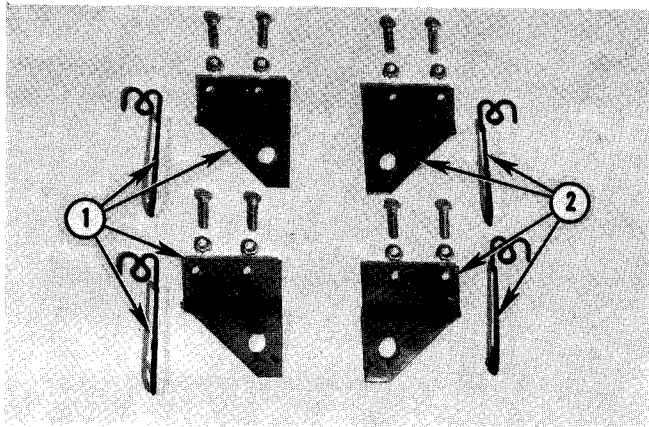

Fig. 38 — Mower Anchor Plates
1. Select four mower anchor plates, spring retainers and attaching hardware from mower carton. Note that there are two left and two right anchor plates and spring retainer, Fig. 38.